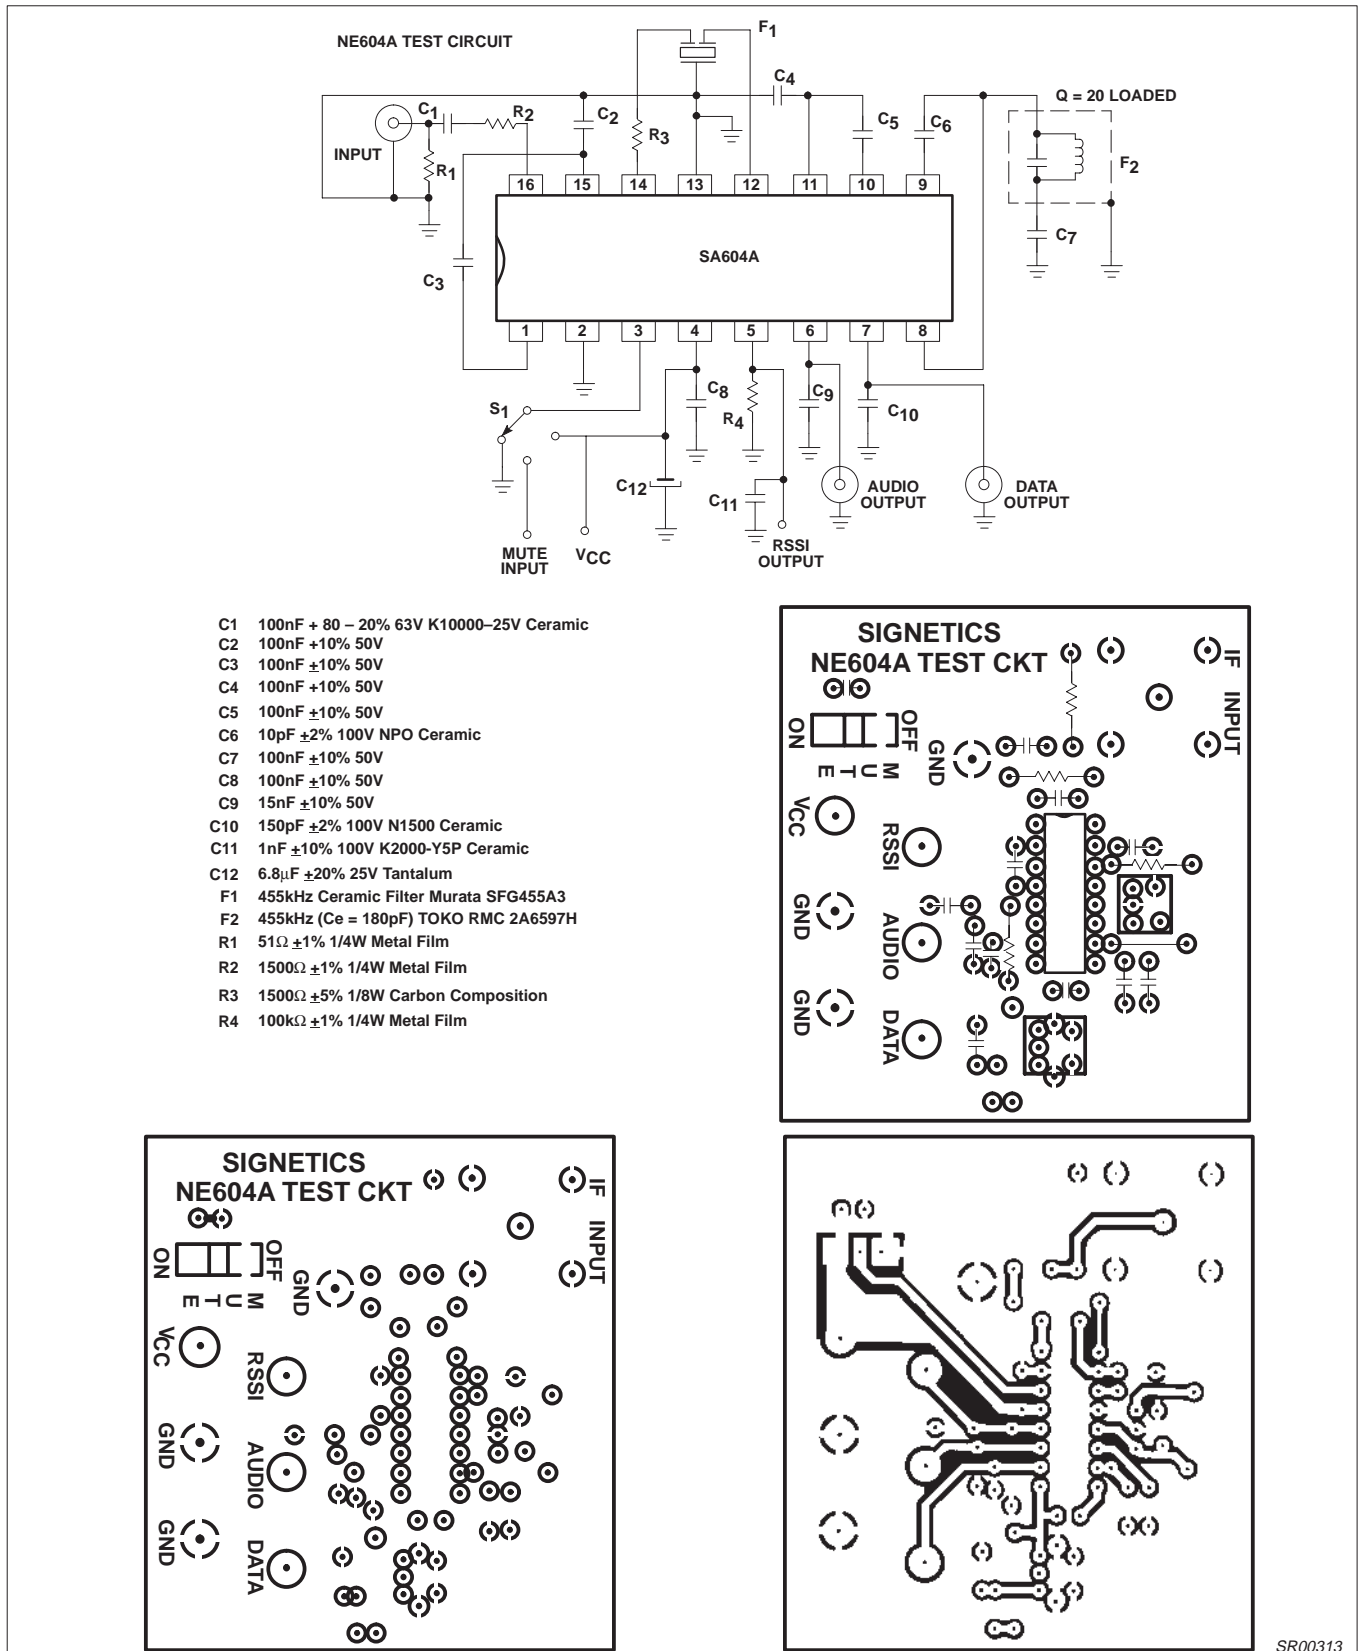
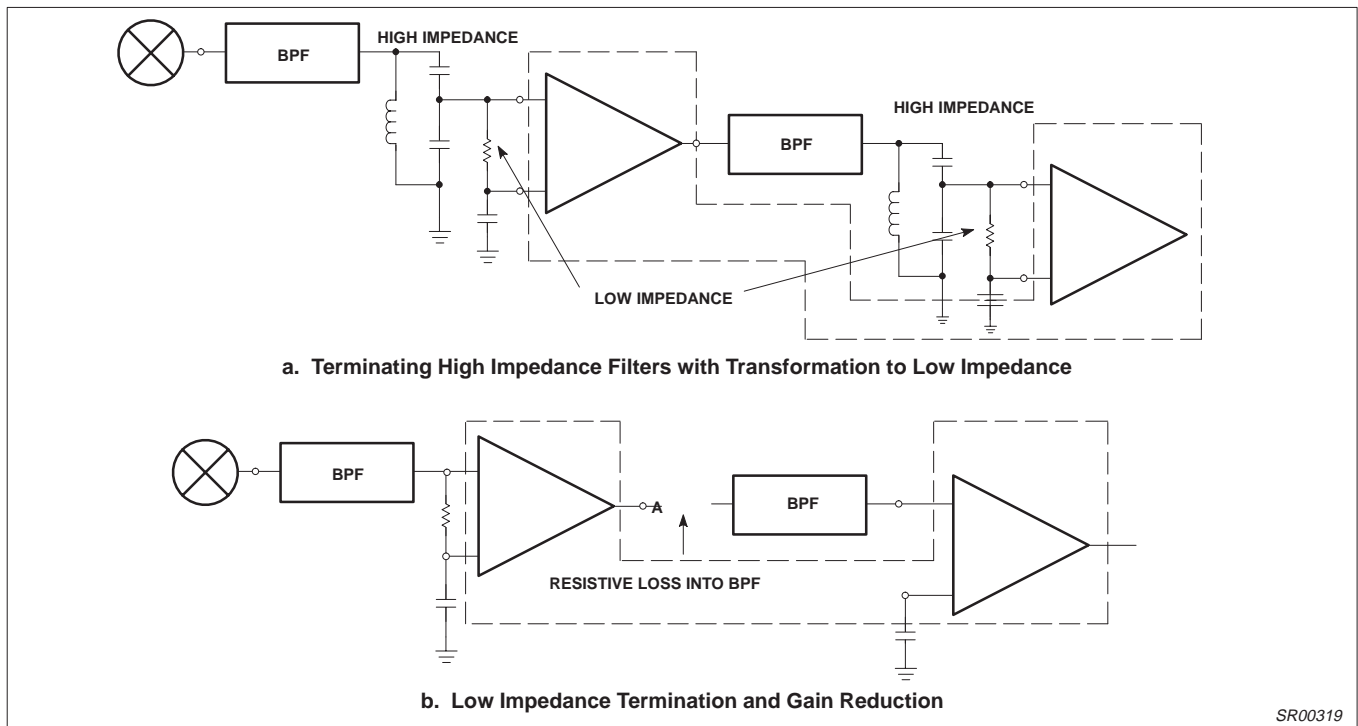

Figure 3. SA604A Test Circuit
Figure 9. Practical Termination
Typical reading at $T_A = 25^\circ\text{C}$; $V_{CC} = \pm 6\text{V}$, unless otherwise stated. IF frequency = 455kHz; IF level = -47dBm; FM modulation = 1kHz with $\pm 8\text{kHz}$ peak deviation. Audio output with C-message weighted filter and de-emphasis capacitor. Test circuit Figure 3. The parameters listed below are tested using automatic test equipment to assure consistent electrical characteristics. The limits do not represent the ultimate performance limits of the device. Use of an optimized RF layout will improve many of the listed parameters.
The SA604A is a very high gain, high frequency device. Correct operation is not possible if good RF layout and gain stage practices are not used. The SA604A cannot be evaluated independent of circuit, components, and board layout. A physical layout which correlates to the electrical limits is shown in Figure 3. This configuration can be used as the basis for production layout.
There are three primary ways to deal with regeneration: (1) Minimize the feedback by gain stage isolation, (2) lower the stage input impedances, thus increasing the feedback attenuation factor, and (3) reduce the gain. Gain reduction can effectively be accomplished by adding attenuation between stages. This can also lower the input impedance if well planned. Examples of impedance/gain adjustment are shown in Figure 9. Reduced gain will result in reduced limiting sensitivity.
The high gain and bandwidth of the SA604A in combination with its very low currents permit circuit implementation with superior performance. However, stability must be maintained and, to do that, every possible feedback mechanism must be addressed. These mechanisms are: 1) Supply lines and ground, 2) stray layout inductances and capacitances, 3) radiated fields, and 4) phase shift. As the system IF increases, so must the attention to fields and strays. However, ground and supply loops cannot be overlooked, especially at lower frequencies. Even at 455kHz, using the test layout in Figure 3, instability will occur if the supply line is not decoupled with two high quality RF capacitors, a 0.1μF monolithic right at the V_{CC} pin, and a 6.8μF tantalum on the supply line. An electrolytic is not an adequate substitute. At 10.7MHz, a 1μF tantalum has proven acceptable with this layout. Every layout must be evaluated on its own merit, but don't underestimate the importance of good supply bypass.
At 455kHz, if the layout of Figure 3 or one substantially similar is used, it is possible to directly connect ceramic filters to the input and between limiter stages with no special consideration. At frequencies above 2MHz, some input impedance reduction is usually necessary. Figure 9 demonstrates a practical means.